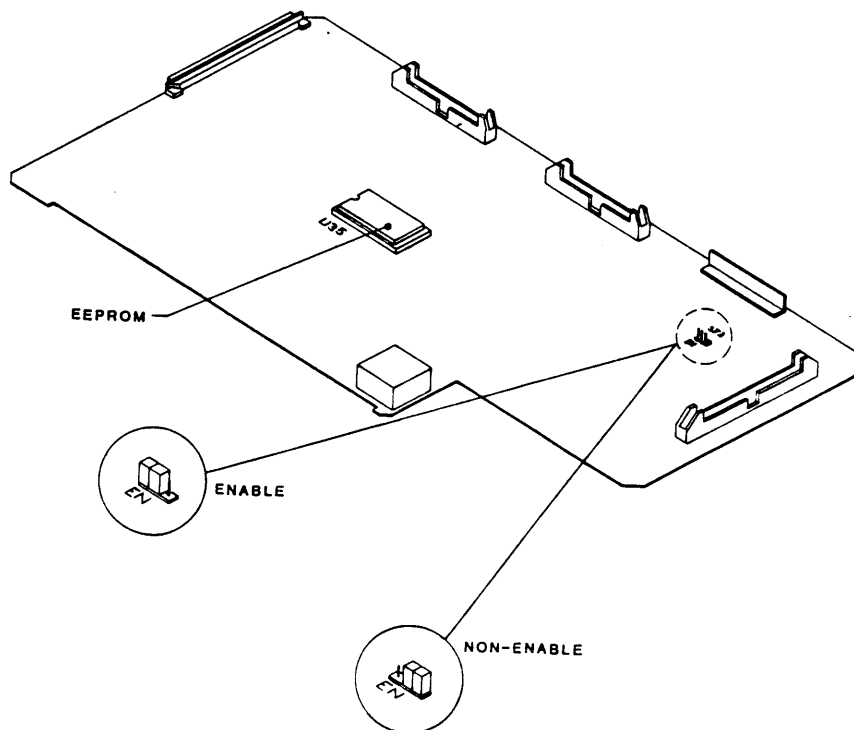

Figure 4-29. Calibration Jumper Location
3. On Drive Electronics Board (Figure 4-29), move the Calibration Jumper from IC Connector U75 pins 8 and 9 to pins 9 and 10.